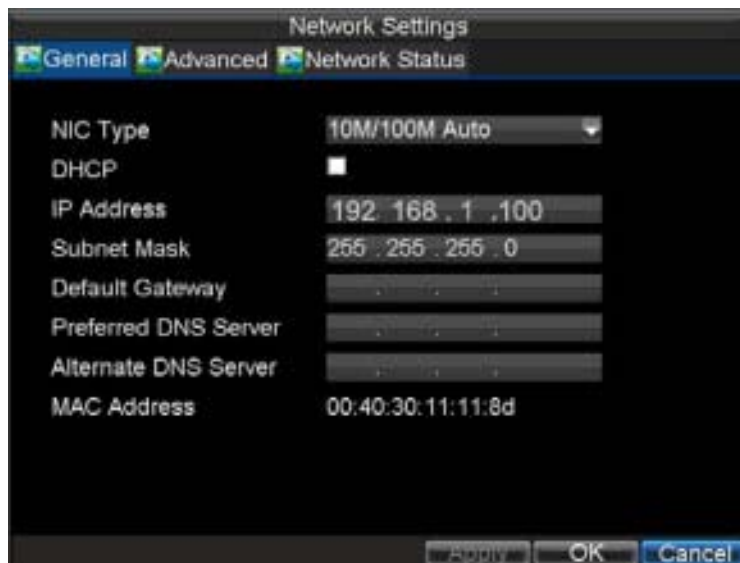

Figure 10.1. Network Settings Menu
- 1) Click Menu > Settings > Network to enter the Network Settings menu, shown in Figure 10.1.